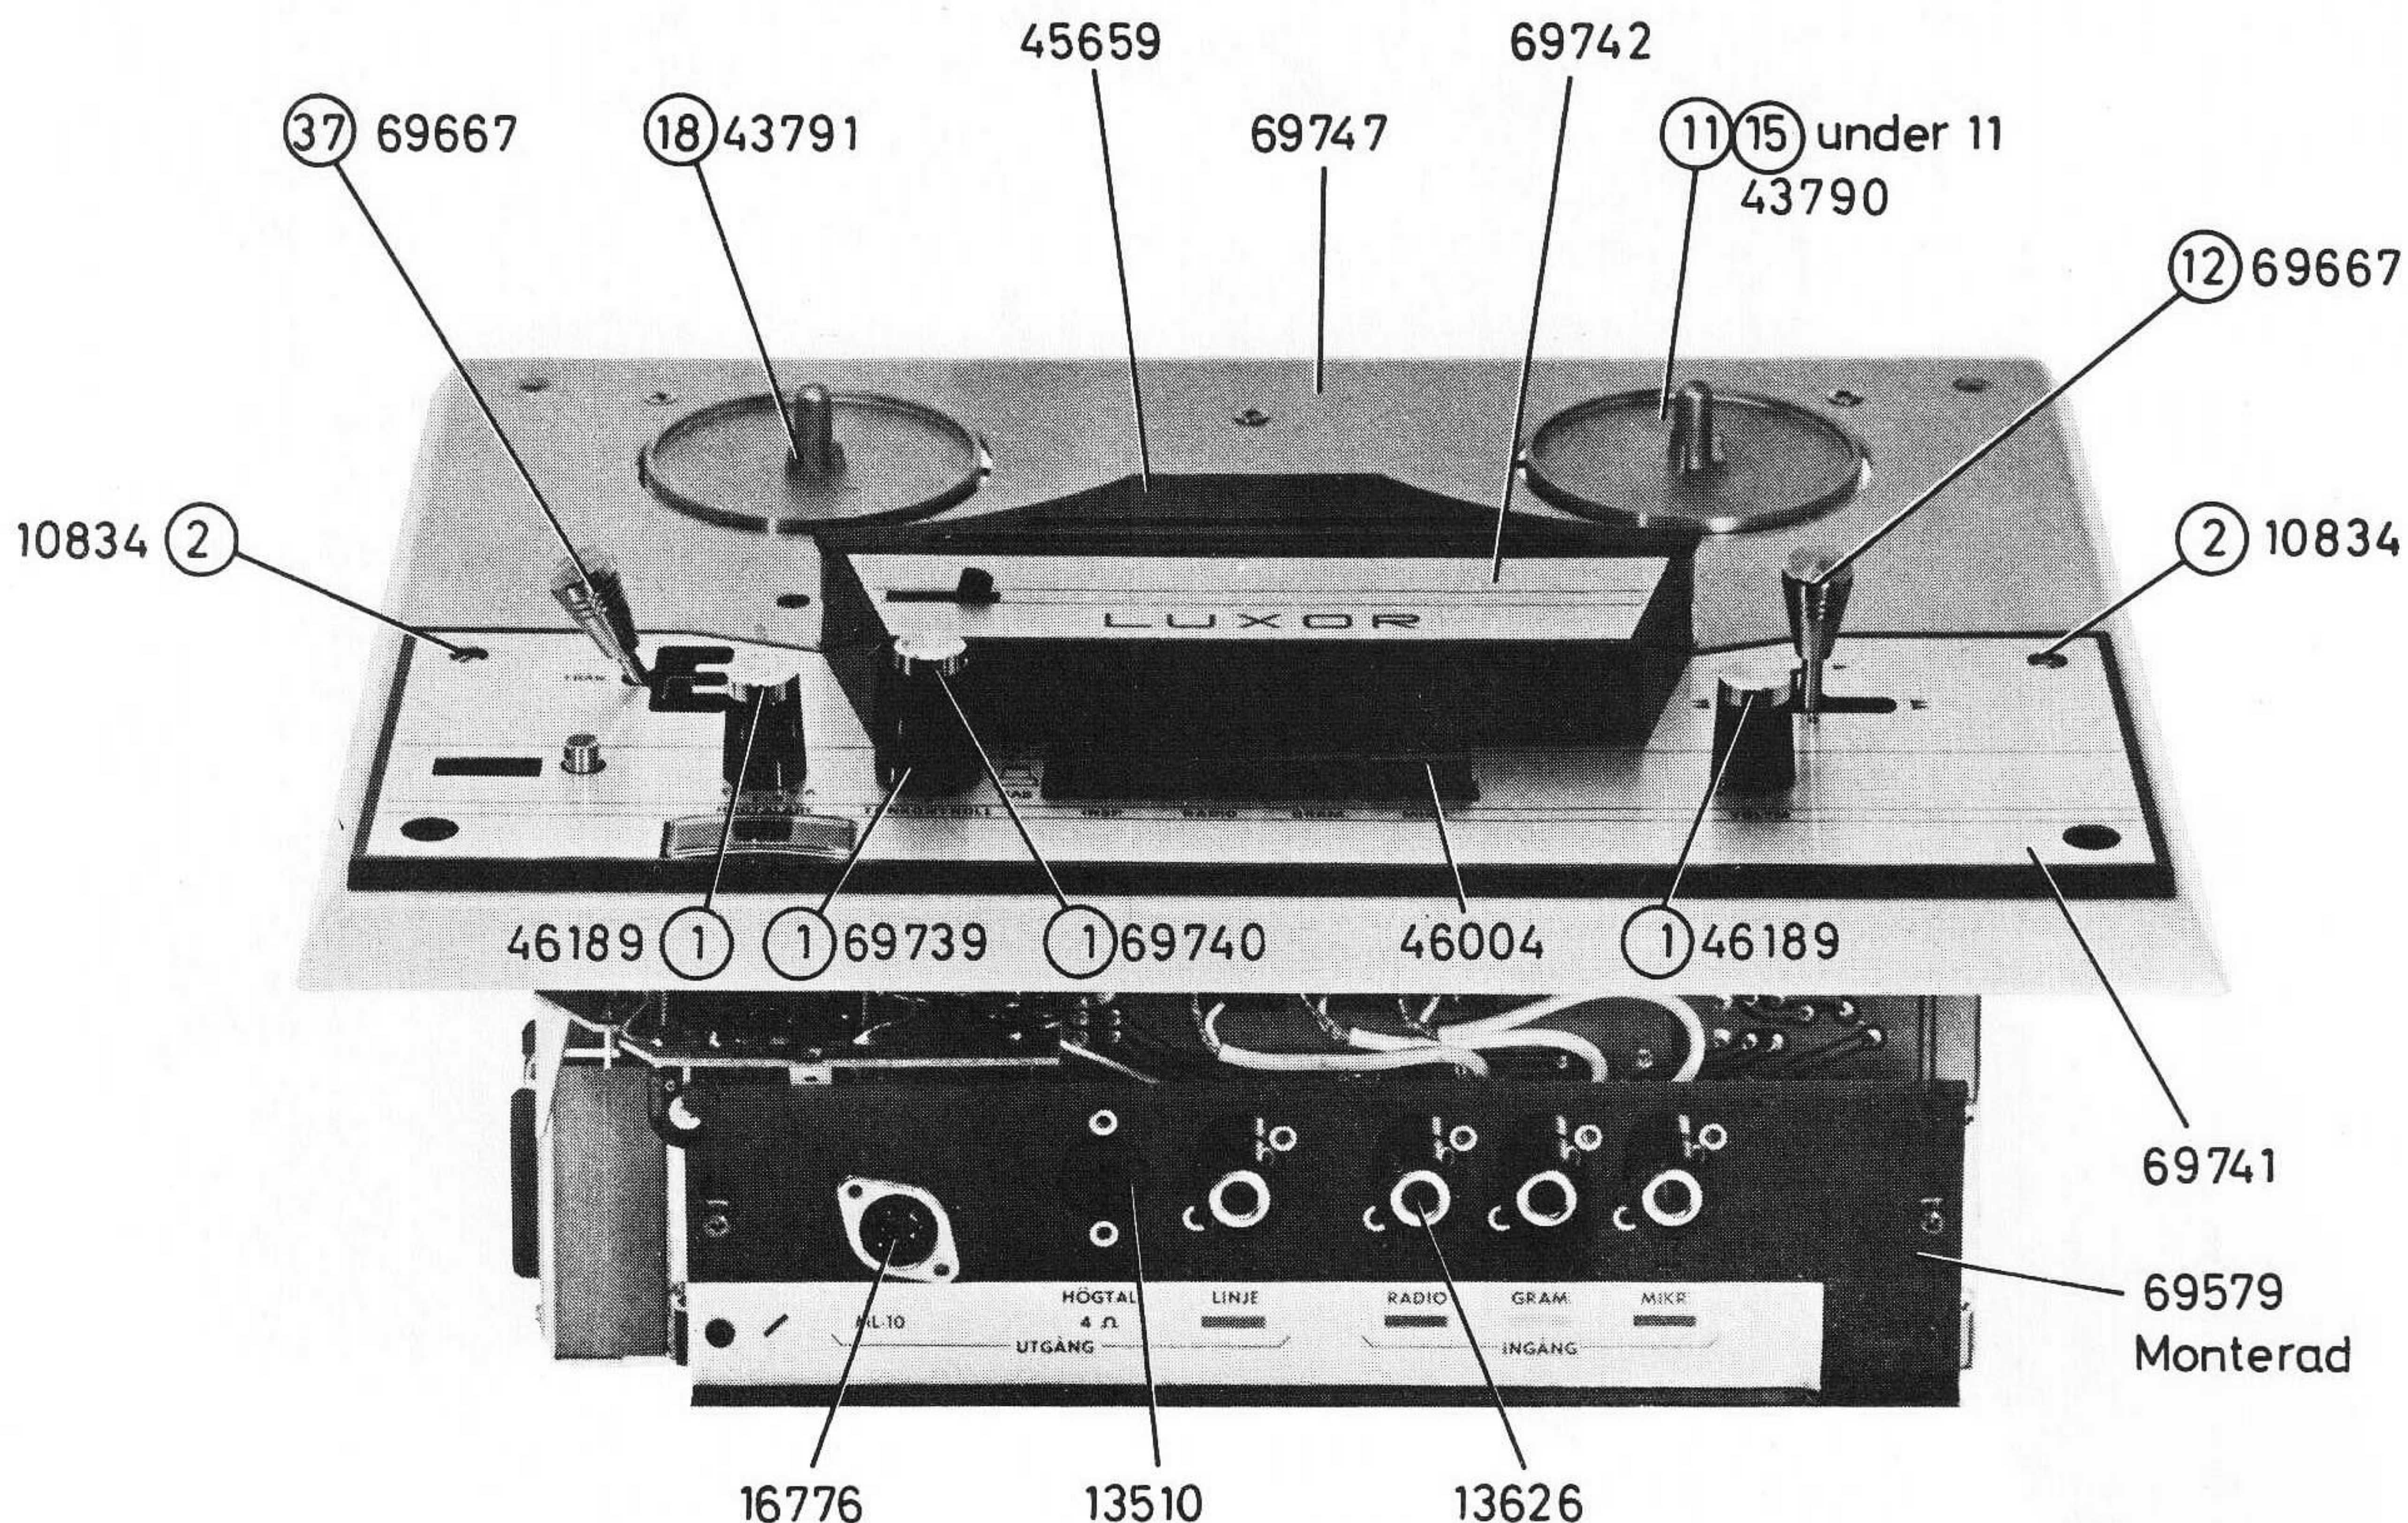
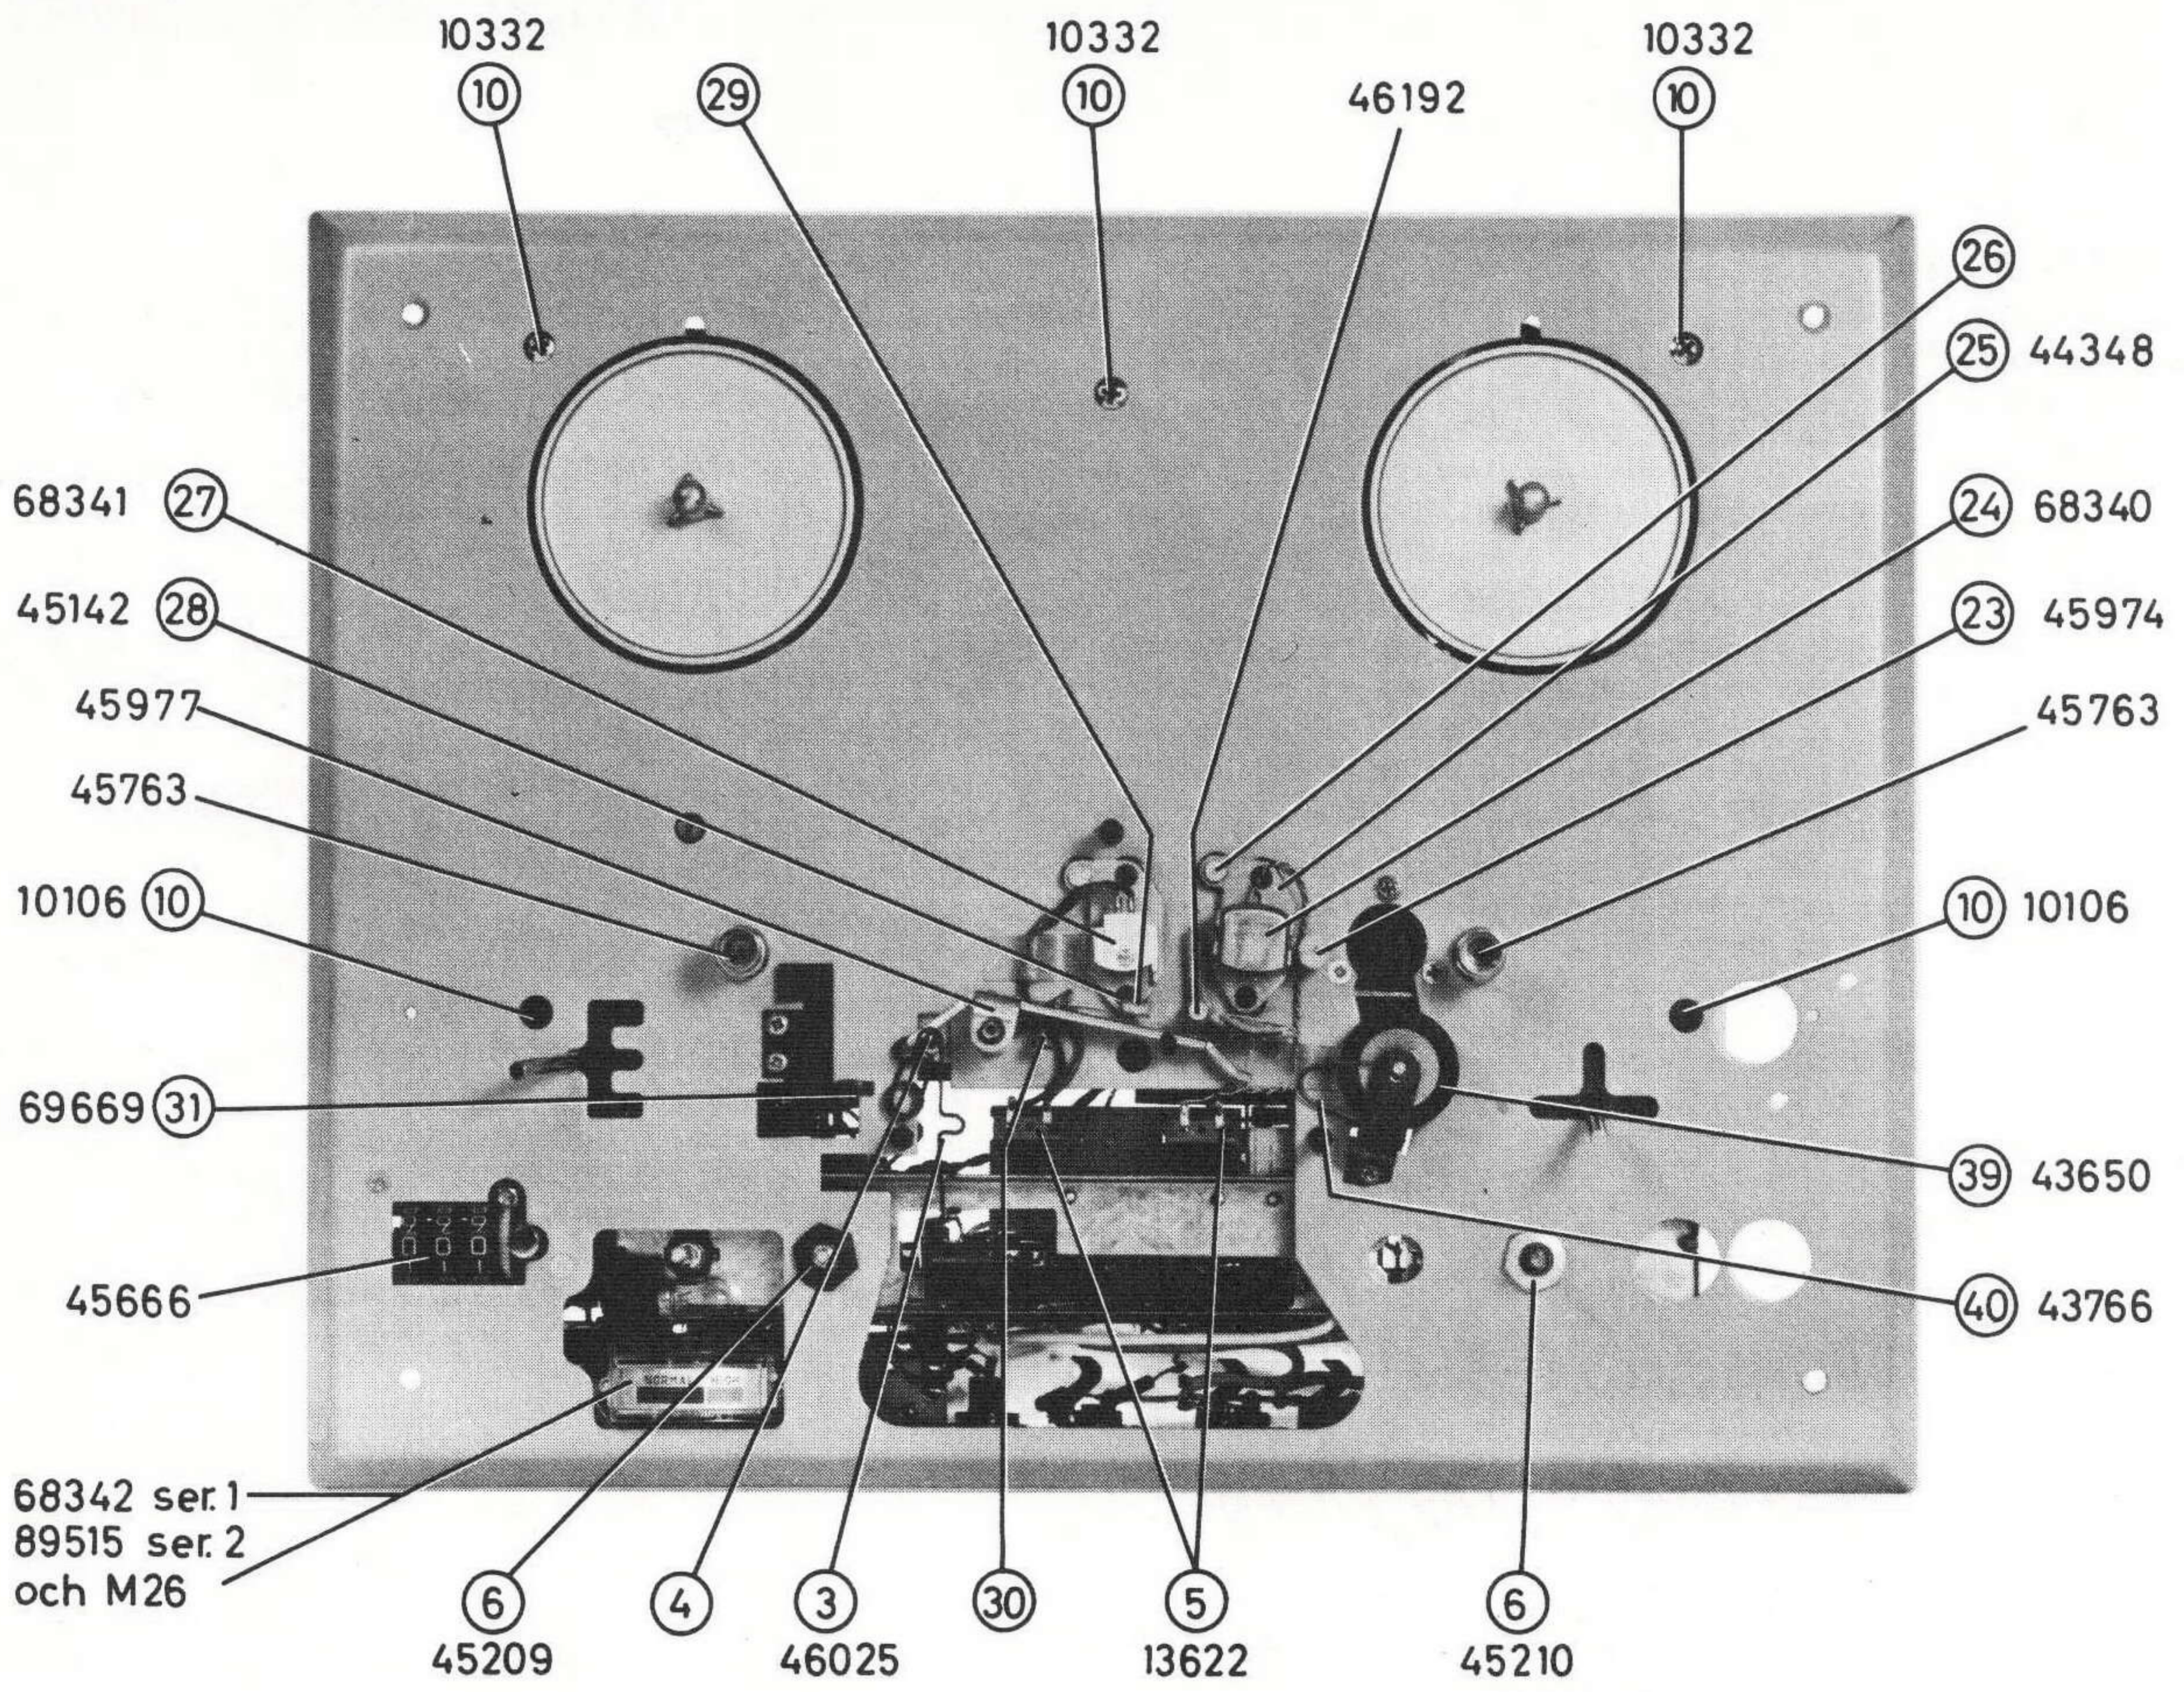
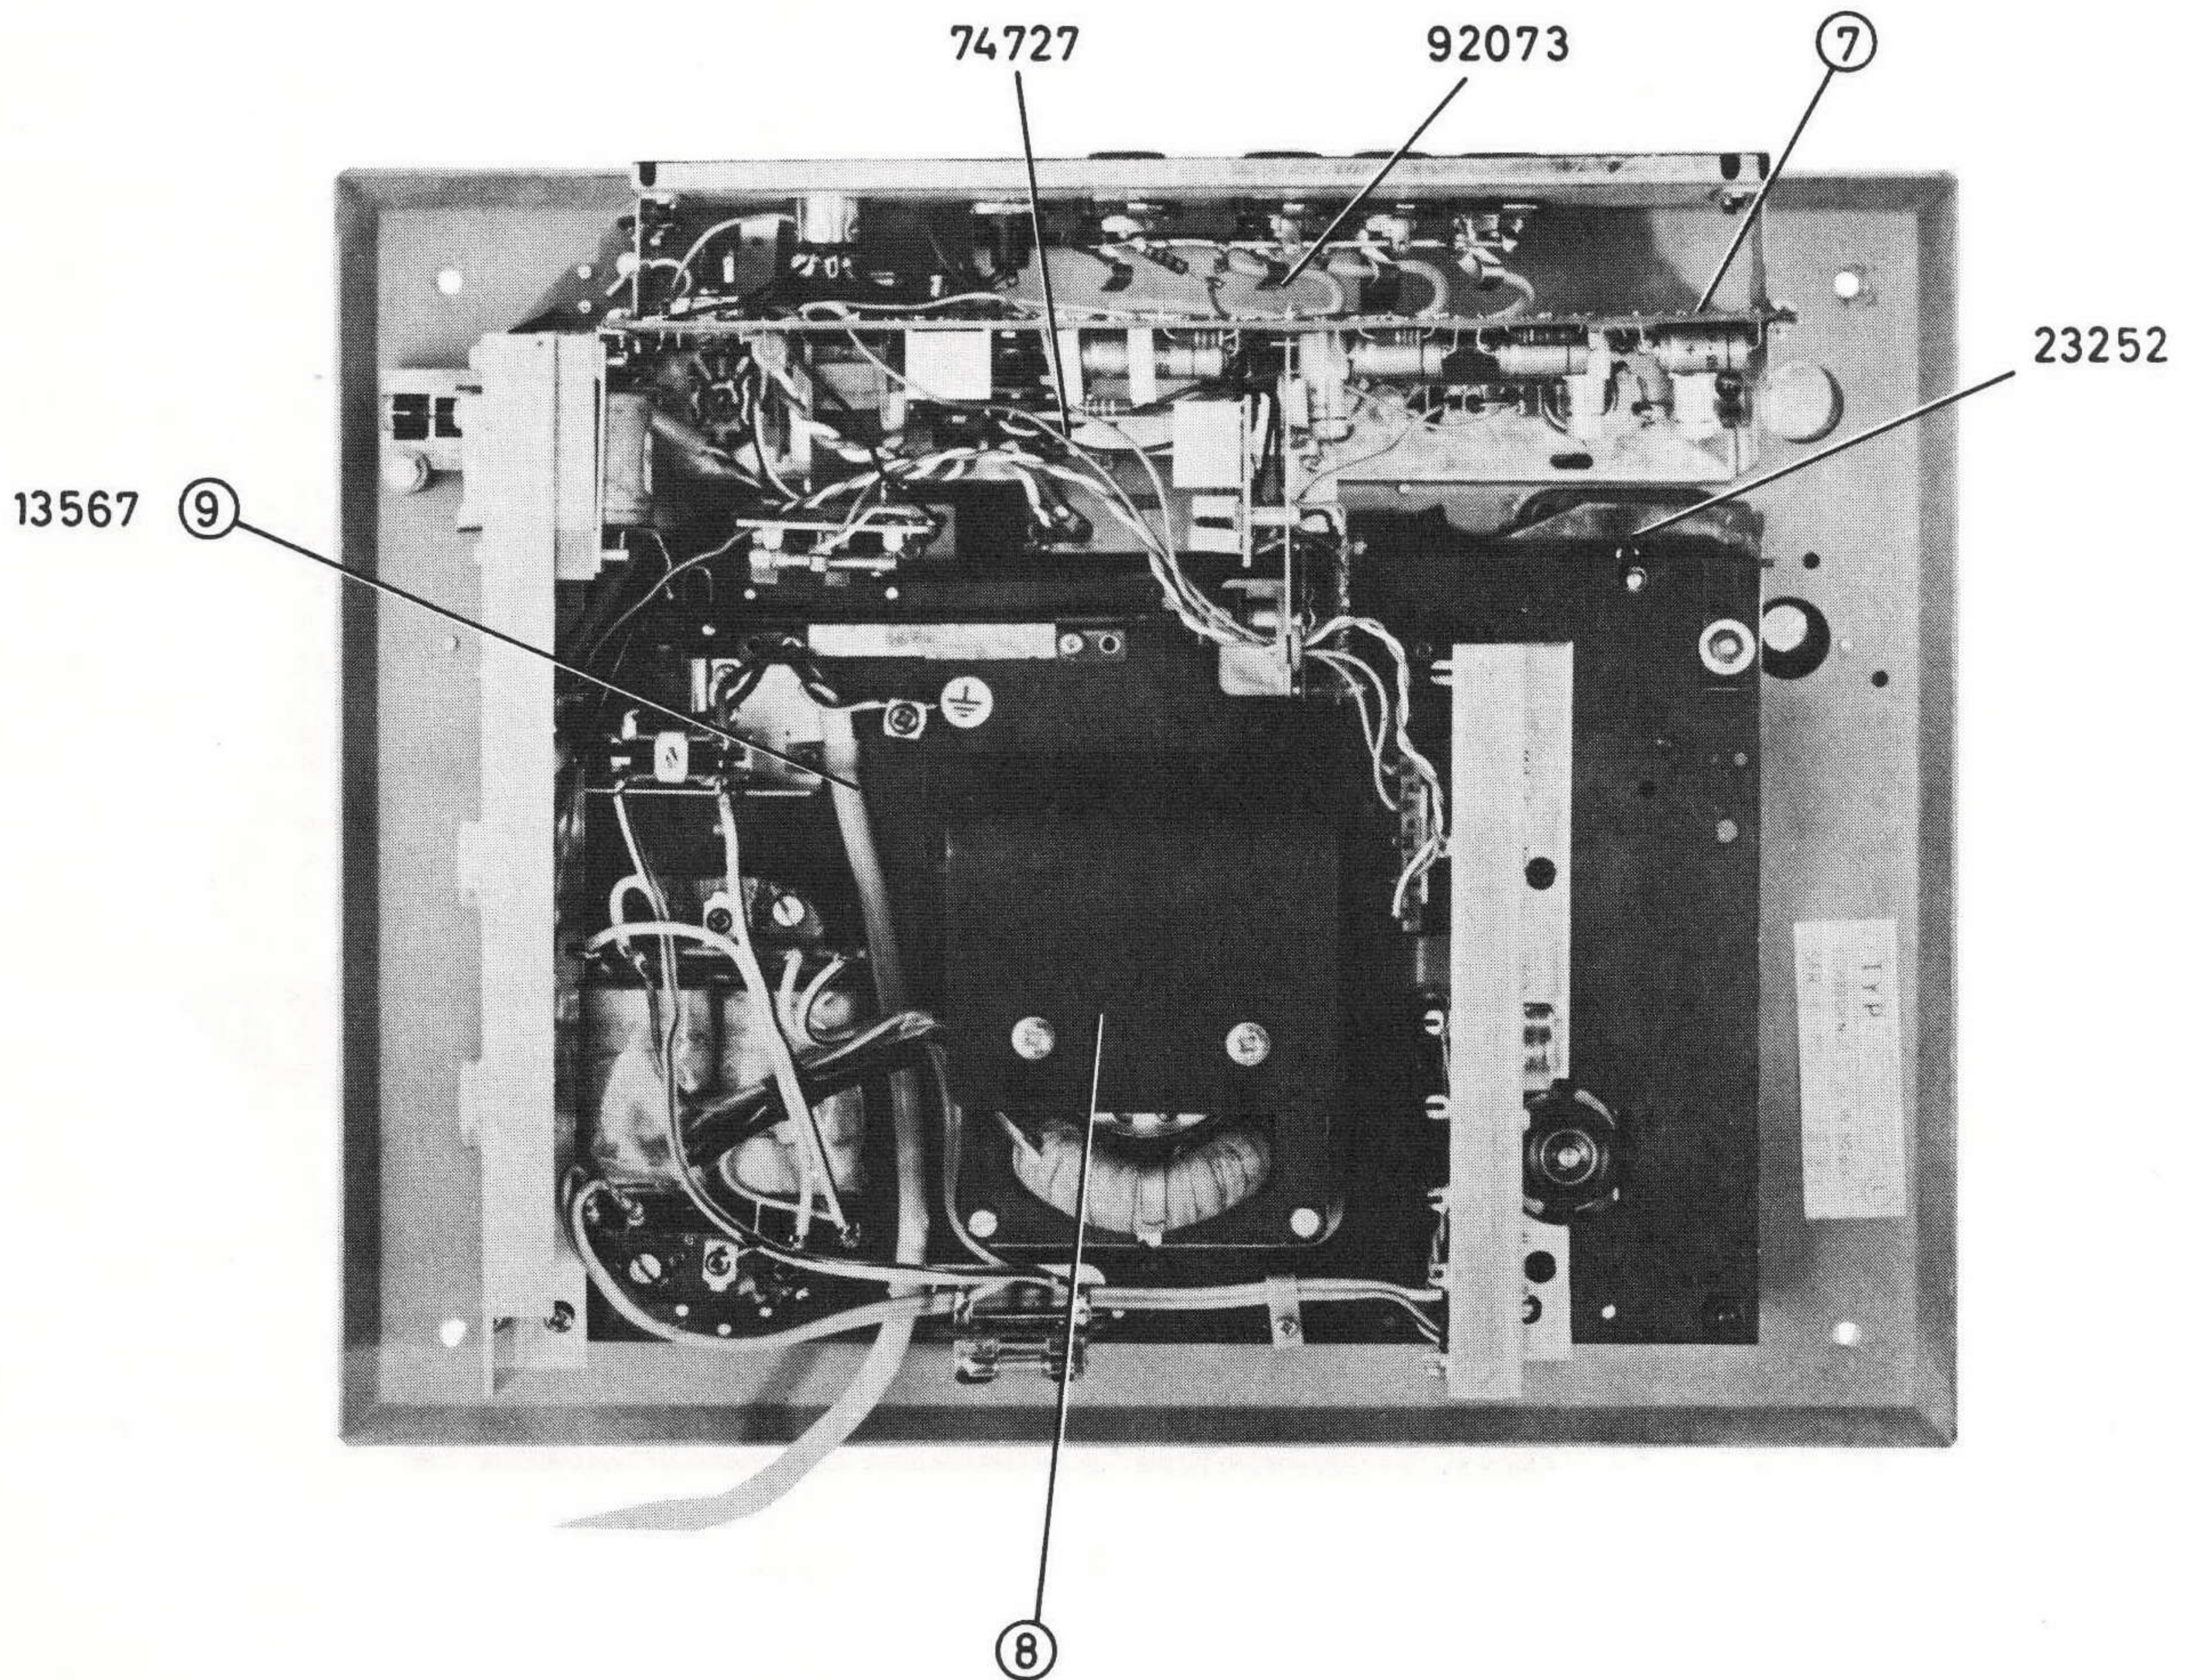
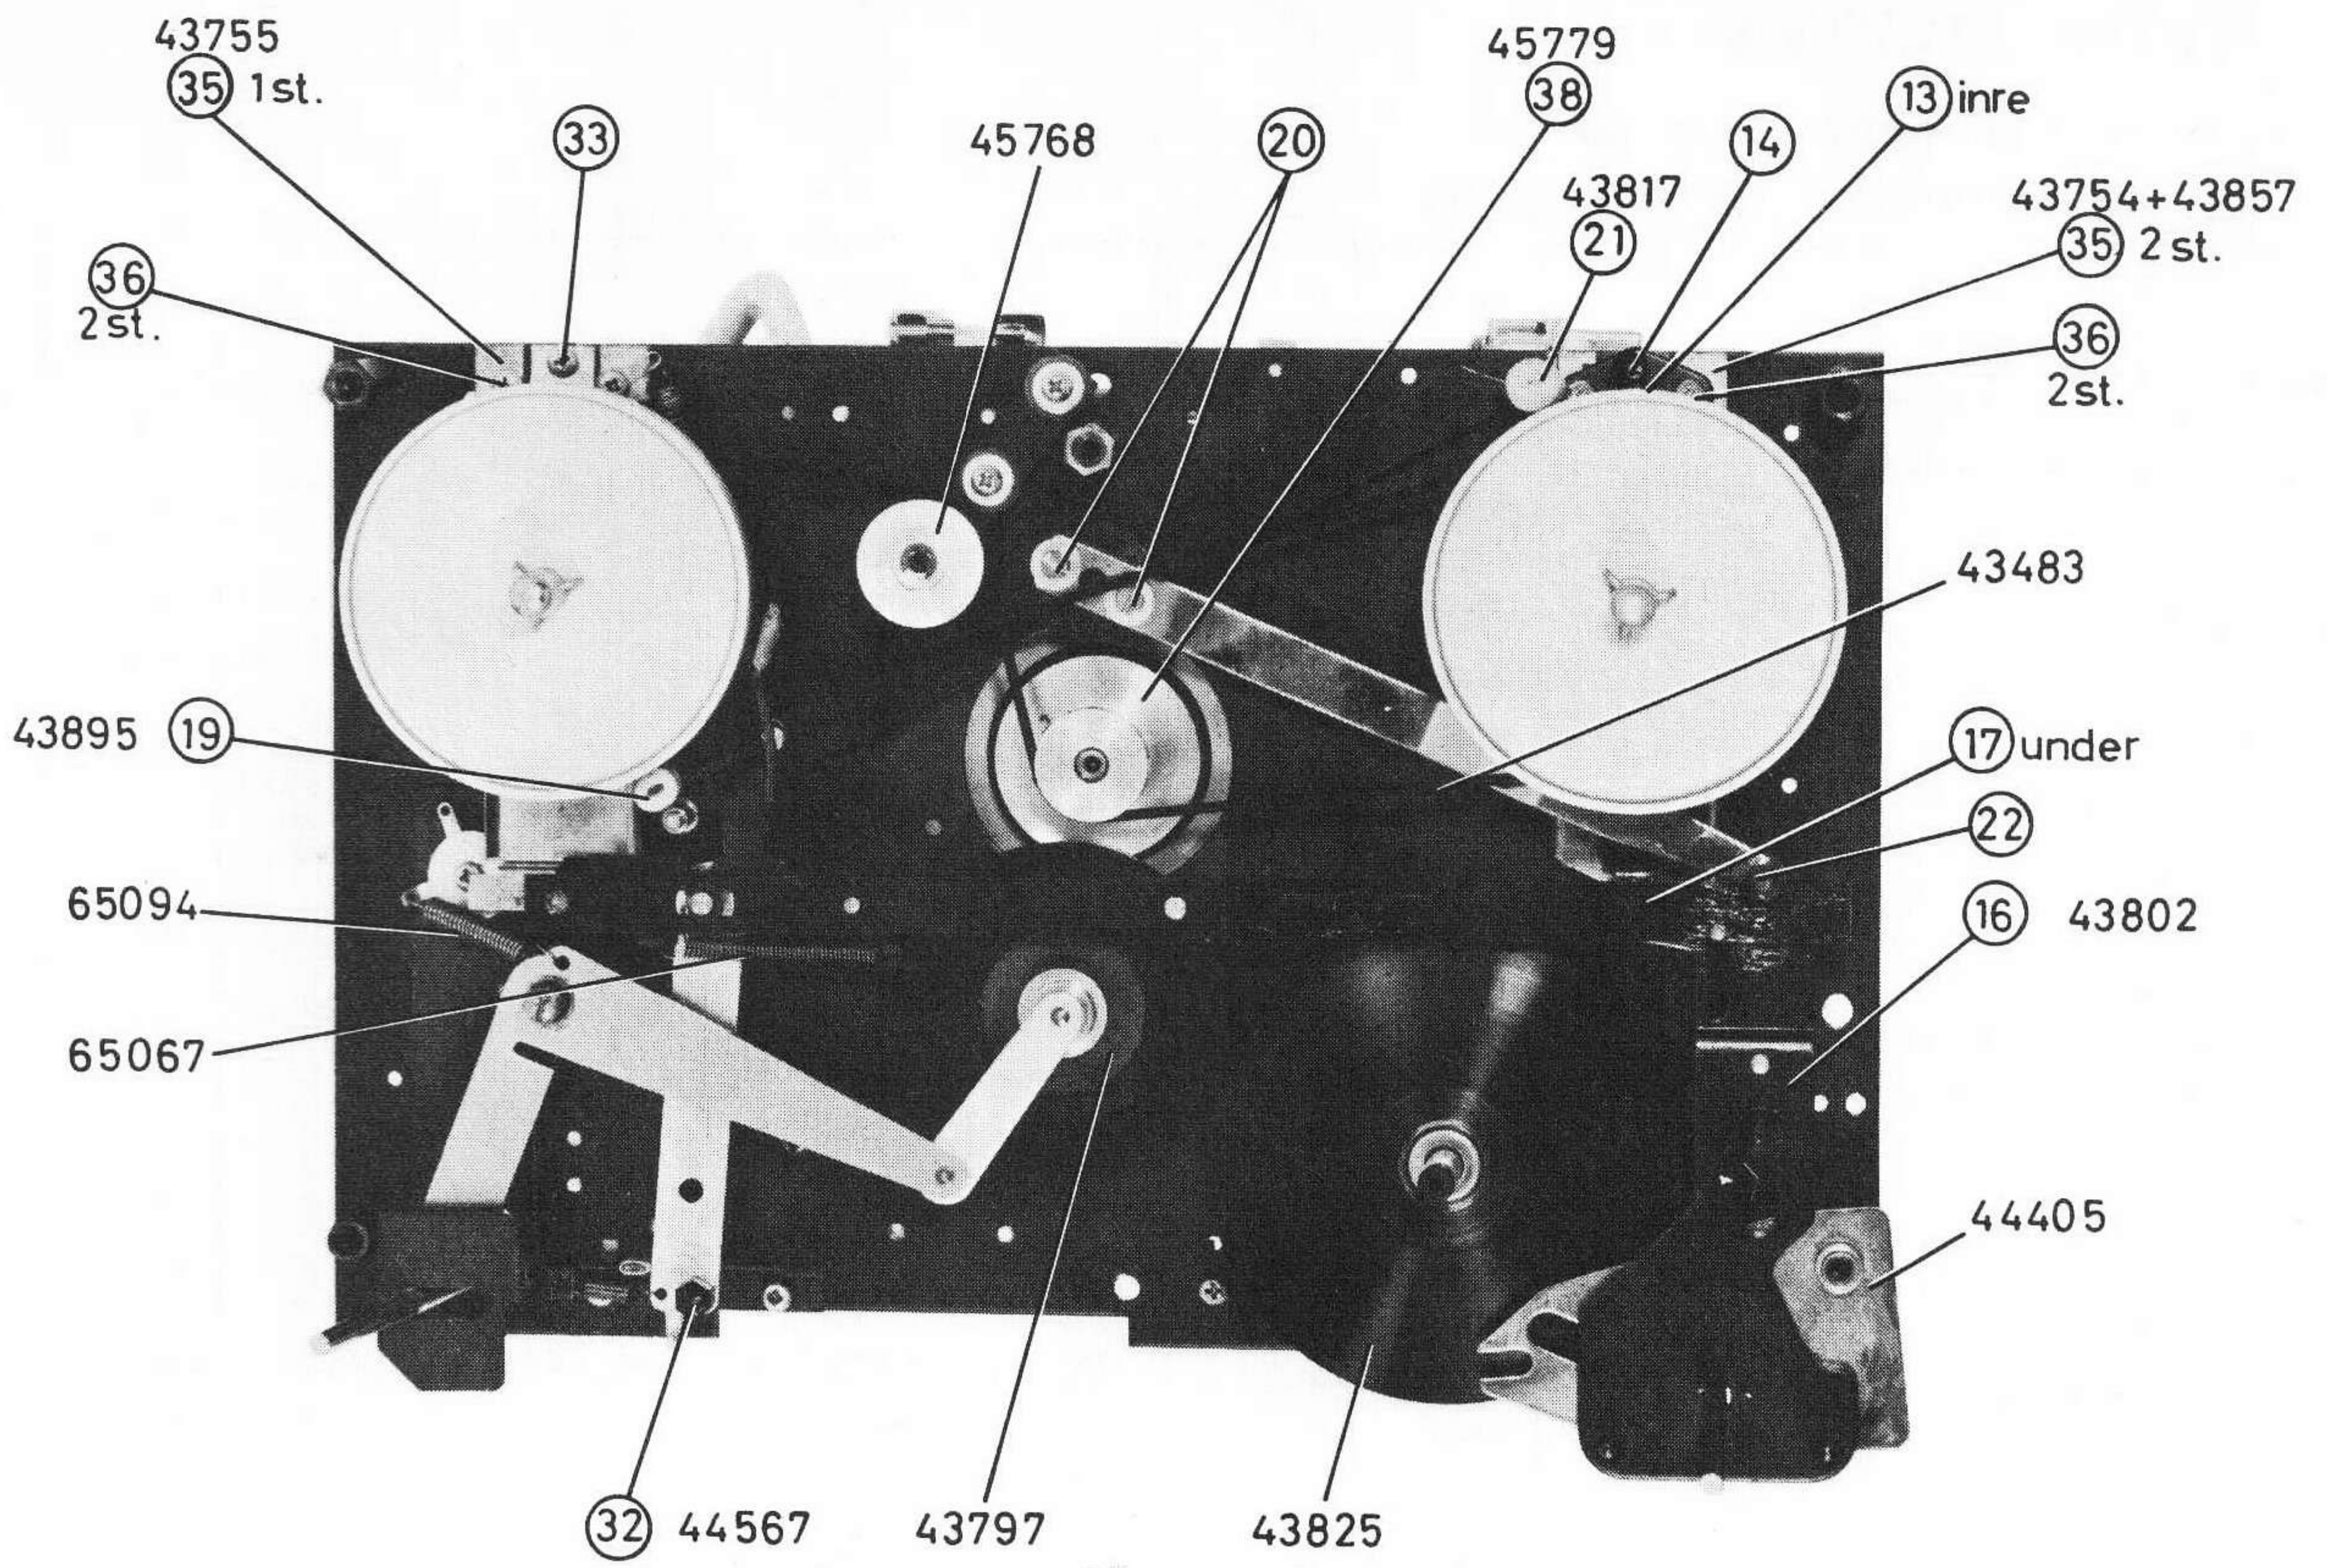

FIG. 1
FIG. 2
FIG. 3
FIG. 4
1. BORTTAG DE FYRA RATTARNA (1) FIG 1.
2. BORTTAG DE TVÅ MANÖVERHANDTAGEN (12) OCH (37).
4. BORTTAG DEN TUNNA STORA MASKEN GENOM ATT LOSSA TVÅ SKRUVAR (2).
5. BORTTAG MUTTERN (34) PÅ STRÖMBRYTAREN.
6. BORTTAG MANÖVERTRÅDEN (3) VID TOPPEN (4) FIG 2.
7. BORTTAG ANSLUTNINGSKONTAKTERNA (5) FRÅN HUVUDET.
8. BORTTAG DE TVÅ MUTTRARNA (6), SOM FASTHÅLLER FÖRSTÄRKAREN I BASPLATTAN.
9. BORTTAG SKRUVEN (7), SOM HÅLLER FÖRSTÄRKAREN BAKTILL FIG 3.
10. BORTTAG MUTTERN (8) FÖR TRYCKRULLEARMEN.
11. BORTTAG ANSLUTNINGSKONTAKTEN (9) TILL FÖRSTÄRKAREN.
13. BORTTAG DE FEM SKRUVARNA (10) PÅ BASPLATTAN FIG 2.
EN TOMSPOLE MED EN INNERDIAMETER AV 57 MM, PÅ VILKEN ÄR UPPLINDAD EN BIT SKALLINA, ANVÄNDES. DENNA SPOLE PLACERAS PÅ BANDSPELARENS HÖGRA SPOLHJUL (11) FIG 2, VAREFTER SKALLINANS FRIA ÄNDE FÄSTES I EN FJÄDERVÅG.
FÖR STARTSPAKEN (12) FIG 1 TILL LÄGET MÄRKT MED EN PIL. JUSTERA MED JUSTERSKRUVEN (13) FIG 4 TILLS VÅGEN VISAR 35 ± 5 GRAM. FÖR SEDAN STARTSPAKEN TILL HÖGER, MÄRKT MED TVÅ PILAR, OCH JUSTERA MED JUSTERSKRUVEN (14) TILLS VÅGEN VISAR 110 ± 10 GRAM.
KONTROLLERA ATT ETT AVSTÅND AV 0,5 - 0,7 MM FINNS MELLAN SPOLHJULETS (11) FIG. 1 FRIKTIONS-FILT OCH REMSKIVANS (15) ÖVRE FRIKTIONSYTA. FÖLJANDE JUSTERING GÖRES: PÅ MANÖVERARMEN (16) FIG. 4 FINNS EN JUSTERMUTTER (17). AVSTÅNDET ÖKAS GENOM ATT SKRUVA NED JUSTERMUTTERN. STARTSPAKEN (12) FIG. 1 SKALL STÅ I 0-LÄGE DÅ DENNA JUSTERING GÖRES.
SAMMA SPOLE, SOM VID JUSTERING AV FRAMSPOLNINGEN, PLACERAS PÅ BANDSPELARENS VÄNSTRA SPOLHJUL (18) FIG. 1, VAREFTER SKALLINANS FRIA ÄNDE FÄSTES I EN FJÄDERVÅG. FÖR STARTSPAKEN (12) TILL LÄGET MED TVÅ PILAR TILL VÄNSTER. JUSTERA MED JUSTERSKRUVEN (33) FIG. 4 TILLS FJÄDERVÅGEN VISAR 110 ± 10 GRAM.
STOPPBROMSARNA JUSTERAS SÅ ATT DÅ STARTSPAKEN (12) FIG. 1 STÄLLES I LÄGE SNABBT FRAM ELLER BACK SKALL DEN VÄNSTRA BROMSFILTEN (19) FIG. 4 LIGGA 0,1 - 0,3 MM FRÅN YTTERKANTEN PÅ VÄNSTRA SPOLHJULET.
DETTA AVSTÅND JUSTERAS GENOM ATT LOSSA DE BÅDA JUSTERSKRUVARNA (20) FIG. 4.
FÖR SEDAN STARTSPAKEN TILL STOPPLÄGE, VRID VÄNSTRA SPOLHJULET (18) FIG. 1 EN ANING MOTURS, VAREFTER DEN HÖGRA BROMSFILTEN (21) FIG. 4 JUSTERAS (GENOM BOCKNING), SÅ ATT BROMSKRAFTEN PÅ HÖGRA SPOLHJULET BLIR NÅGOT LÄGRE ÄN PÅ DET VÄNSTRA.
BANDSTYRNINGEN (23) FIG. 2 INSTÄLLES I HÖJDLED, SÅ ATT TONBANDET PASSERAR RAKT GENOM SAMTLIGA BANDSTYRNINGAR UTAN ATT PÅ NÅGOT STÄLLE TVINGAS VARE SIG NED ELLER UPP. VID JUSTERING TILLSSES ATT RADERHUVUDET (27) FIG. 2 JUSTERAS SÅ ATT BANDET LÖPER LÄTT MELLAN DESS STYRPINNAR. SE ÄVEN UNDER "JUSTERING AV RADERHUVUDET".
TONHUVUDET (24) FIG. 2 JUSTERAS I HÖJDLED SÅ ATT DESS ÖVRE KÄRNPLÅT KOMMER ATT LIGGA 0,1 MM UNDER TONBANDETS ÖVRE KANT. DESSUTOM TILLSSES ATT HUVUDETS FÄSTPLÅT (25) KOMMER PARALLELLT MED BASPLATTAN. MAX. AVVIKELSE 0,2 MM.
RADERHUVUDET (27) FIG. 2 JUSTERAS SÅ ATT TONBANDET PASSERAR HUVUDETS STYRNINGAR UTAN ATT VILJA GÅ UPP ELLER NED. SE ÄVEN UNDER "BANDSPOLNINGEN EJ TILLFREDSTÄLLANDE".
TRYCKFILTEN (29) FIG. 2 SKALL HA ETT LÄMPLIGT TRYCK MOT RADERHUVUDET, SÅ ATT RÄTT TRYCK ÄVEN MOT TONHUVUDET ERHÅLLES. JUSTERAS MED SKRUVEN (30). TRYCKET MOT TONHUVUDET MÄTES INDIREKT GENOM ATT EN BIT TONBAND, FASTSATT I EN FJÄDERVÅG, LÄNGSAMT DRAGES MEDELST VÅGEN GENOM BANDSTYRNINGARNA, DÅ HUVUDETS RÖRLIGA SKÄRMPLÅT LIGGER AN MOT HUVUDET. VID RÄTT JUSTERING SKALL VÅGEN VISA EN DRAGKRAFT AV 40 ± 5 GRAM.
MANÖVERSPAKEN (31) FIG. 2 HAR TVÅ LÄGEN TILL VÄNSTER: LÄGE 1 VARIFRÅN SPAKEN AUTOMATISKT ÅTERGÅR TILL KÖRLÄGE SÅ SNART DEN SLÄPPS OCH LÄGE 2 (LÄNGST TILL VÄNSTER), DÄR SPAKEN KVARSTÅR TILLS DEN MANUELLT ÅTERFÖRS TILL KÖRLÄGE.
JUSTERING: FÖR STARTSPAKEN (12) FIG. 1 TILL LÄGE MÄRKT MED EN PIL SAMT MANÖVERSPAKEN (31) FIG. 2 TILL LÄGE 1. I DETTA LÄGE SKALL ETT AVSTÅND AV 0,2 - 0,5 MM FINNAS MELLAN TRYCKRULLEN OCH KAPSTANAXELN. AVSTÅNDET KAN ÖKAS ELLER MINSKAS GENOM VRIDNING AV DEN NEDRE 6-KANTIGA DELEN AV DEN EXCENTRISKA LAGER-TAPPEN (32) FIG. 4.
MANÖVERFJÄDRARNA (35) FIG. 4. TRE STYCKEN JUSTERAS SÅ ATT FJÄDRARNA EJ NÖTER MOT SPOLHJULNAVENS LAGERBUSSNINGAR. FJÄDRARNA SKALL ALLTSÅ HÅLLAS I NEUTRALLÄGE, DÅ FÄSTSKRUVARNA (36) ÅDRAGES.
MED SPAKEN FÖR HASTIGHETSOMSTÄLLNING (17) FIG. 1 I LÄGE 17 1/2" KONTROLLERAS, ATT MELLANHJULET LIGGER PARALLELLT MED MONTERINGSPLÅTEN OCH ATT MELLANHJULETS LAGERTAPP LIGGER PÅ ETT AVSTÅND AV 0,3 - 0,7 MM FRÅN MONTERINGSPLÅTEN. VID BEHOV BOCKAS DEN LÅNGA MANÖVERARMEN UPP ELLER NED.
MOTORNIS DRIVRULLE (38) FIG. 4 JUSTERAS I HÖJDLED SÅ, ATT DÅ MANÖVERSPAKEN (37) FIG. 1 STÅR I LÄGE 1 7/8" SKALL 1,5 MM:S AVSTÅND FINNAS MELLAN UNDERE KANTEN AV MELLANHJULETS GUMMIBANA OCH ÖVRE KANTEN AV DRIVRULLENS 3 3/4":S DRIVBANA. JUSTERING AV DRIVRULLENS HÖJDLÄGE GÖRES GENOM ATT ROTORN HÅLLES STILLA UNDER DET ATT DRIVRULLEN VRIDES MOTURS, SAMTIDIGT SOM DEN HÖJES ELLER SÄNKES EFTER BEHOV.
VID JUSTERING AV TRYCKRULLEN (39) FIG. 2 IAKTTAGES STOR FÖRSIKTIGHET, SÅ ATT INTE NÅGON AV DESS TVÅ FJÄDRAR (40) DEFORMERAS, VILKET MEDFÖR, ATT TRYCKRULLEN KAN FÅ OLIKA ANLIGGNINGSTRYCK I ÖVRE OCH NEDRE KANTEN, VARVID BANDFÖRINGEN FÖRSÄMRAS MED HÖGRE SVAJNINGSVÄRDEN SOM FÖLJD.
LÄNGDEN AV MANÖVERTRÅDEN (3) FIG. 2 JUSTERAS SÅ ATT SÄKER UTLÖSNING AV INSPELNINGSKNAPPEN ERHÅLLES ÄVEN DÅ MANÖVERSPAKEN LÅNGSAMT FÖRES FRÅN KÖRLÄGE TILL STOPPLÄGE.